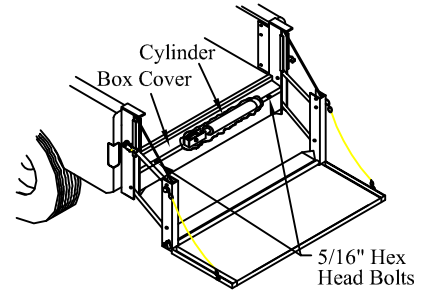

Figure 1: Liftgate on the ground.
- Step 1. Park vehicle on a level surface and lower the liftgate to the ground (Figure 1).